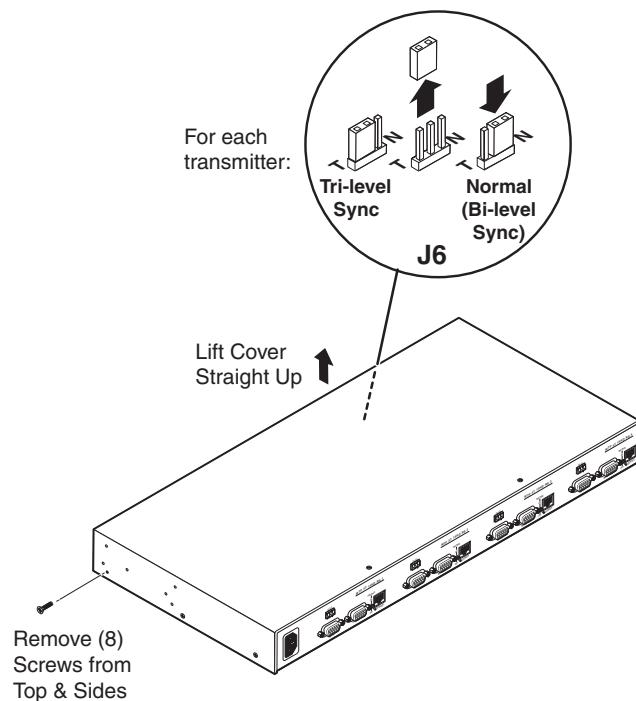

Figure 2-1 — Opening the transmitter assembly and sync jumpering
2. Remove the eight screws (three on each side and two on top) from the transmitter assembly and lift the top cover off of the transmitter (figure 2-1).
3. Locate jumper J6 on the main (bottom) board and shift the jumper from the normal sync (N) to the tri-level sync (T) position (figure 2-1).